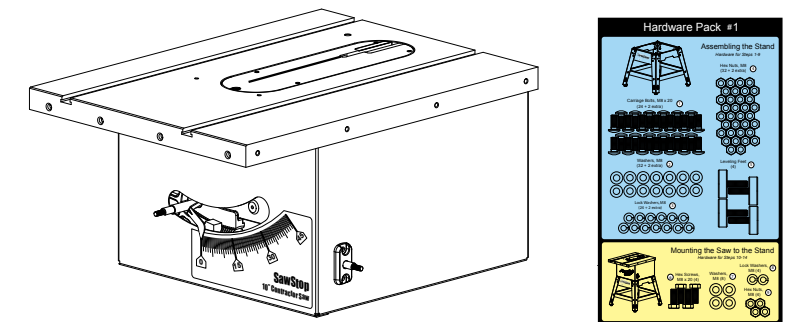

Fig. 10
- Remove the saw from the box and locate the mounting hardware. All of the hardware needed to mount the saw to the stand is located in the area with the yellow background on hardware pack #1 (see Fig. 10).